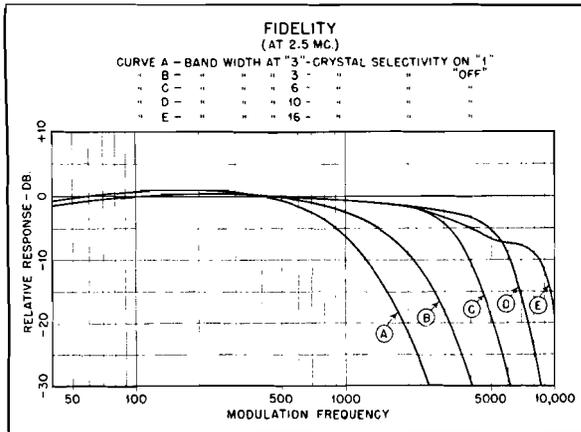

FIG. 9—Audio fidelity curves.
b. *Output Transformer:* The output transformer (T8) has two secondary windings; a 500-ohm secondary (4-5) for power output, and a secondary for earphones (6-7) designed to deliver about 3% of the output power into an 8000-ohm resistive load when the 500-ohm secondary is connected to a matching load such as the loudspeaker (see PAR. 7f). The turns ratio and resistance of the earphone winding are such that the power delivered to any load between 8000 ohms and 80 ohms varies less than 6 db, and the power input to a 250-ohm load is but 2 db greater than that to a 4000-ohm load. FIG. 9 shows curves of overall audio fidelity with different settings of the CRYSTAL SELECTIVITY and BAND WIDTH controls.